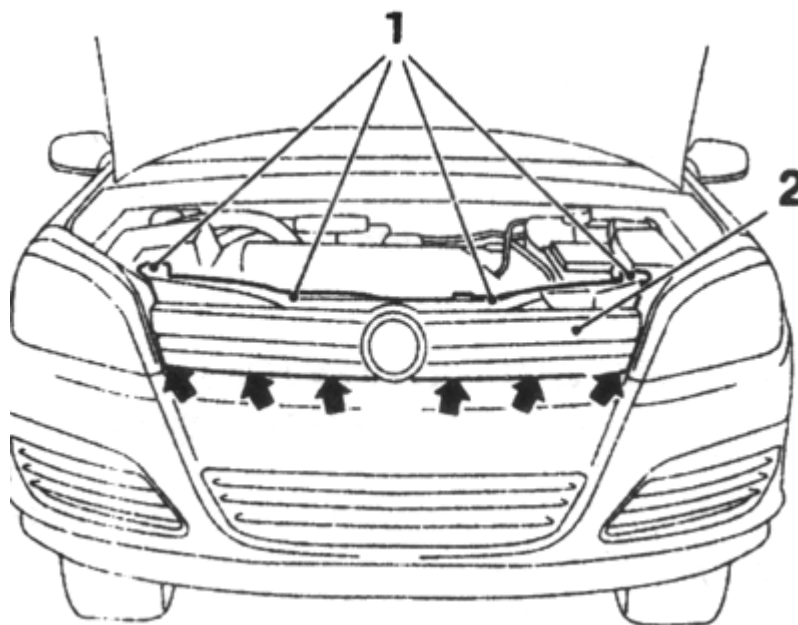

Fig. 8.10. Rivets fixing decorative tive lattice Radiator
B. Squeeze the retainers and remove the grille from the bumper pads (Figure 8.10).